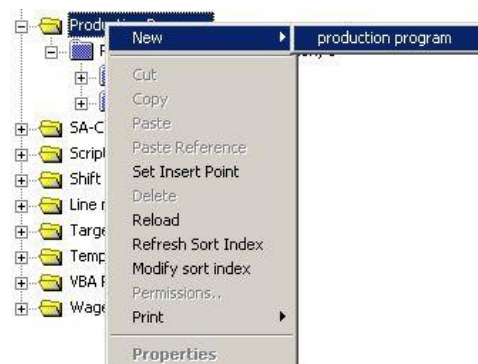
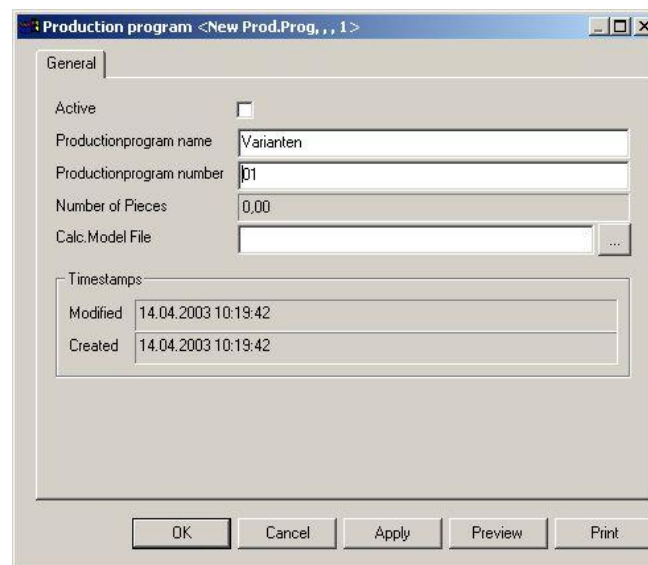

Figure 57: Context Menu – Creating a Production Program
Figure 58: Production Program Properties Dialog
- 3) Create a new production program using the **New** menu item. *Please refer to the Figure 57 and Figure 58.*